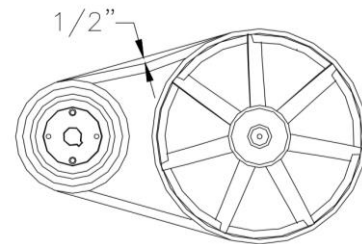

Figure 17
7. Check for proper belt tension. (Figure 17)